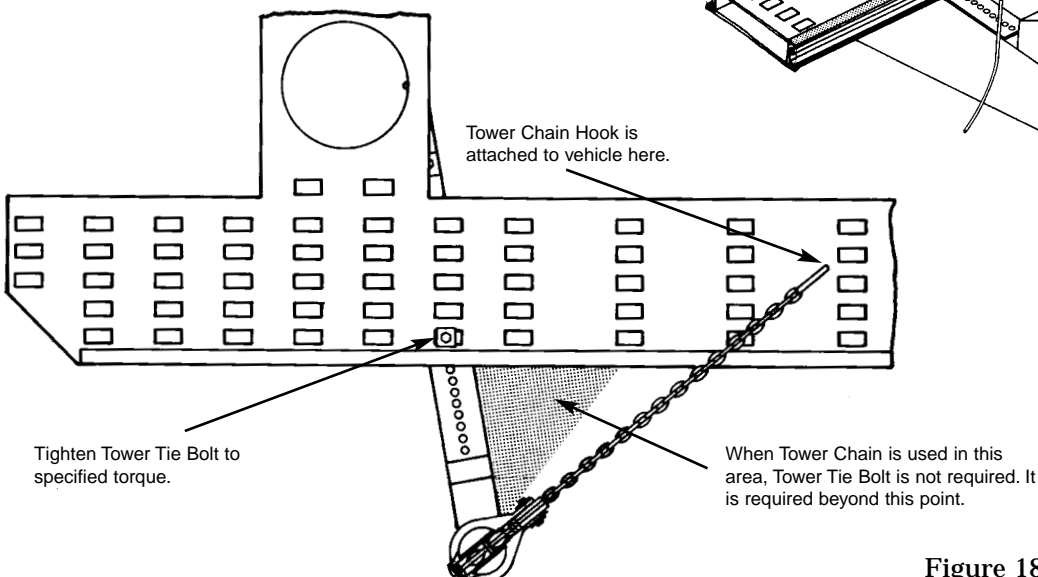

Figure 18
3. Pull from side of tower exceeds 45 degree angle from tower base. (See Figure 18.) This situation does not necessarily force tower up or down, but instead causes tower pedestal rings to twist.